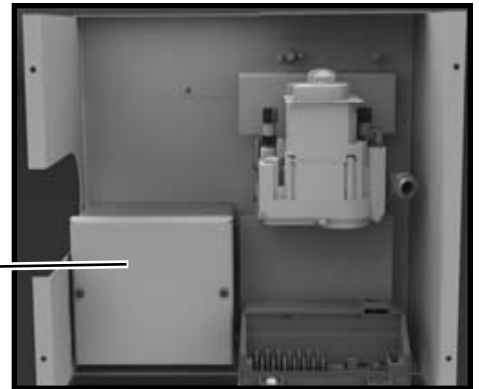

Figure 24: Electrical box cover.
4. Remove the cover from the electrical box (Figure 24).